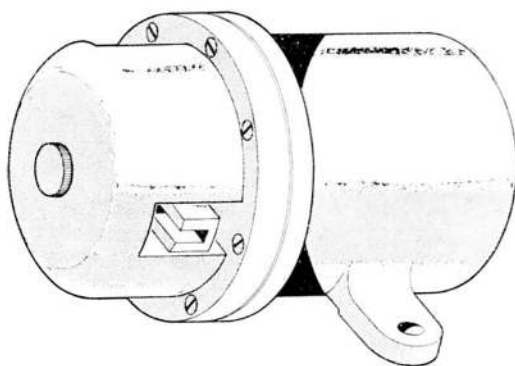
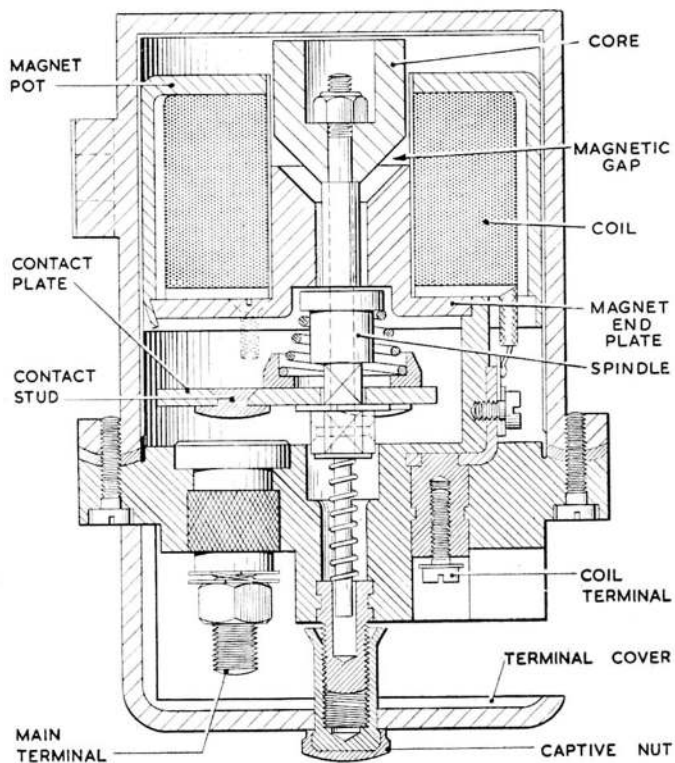

Fig. 1. Magnetic relay switch, Type T1
Fig. 2. Sectional view of switch
2. The relay switch (*fig. 1*) is a single-pole, double break switch, operated by an electromagnet. The closing of a control switch energizes the coil, and attracts the core until it touches the magnet end plate (*fig. 2*). The core is carried on a central spindle which moves downwards against spring tension. Also mounted on the spindle is a copper contact plate, with inset contact studs; when the relay is energized, this plate bridges the main terminals and completes the circuit to the load.